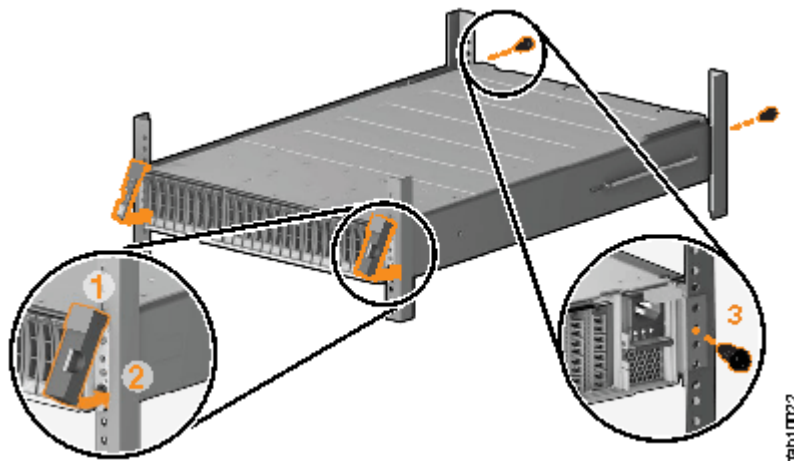

Figure 25. Reinstalling enclosure end caps
5. Re-install the left and right end caps (See Figure 25 on page 49).